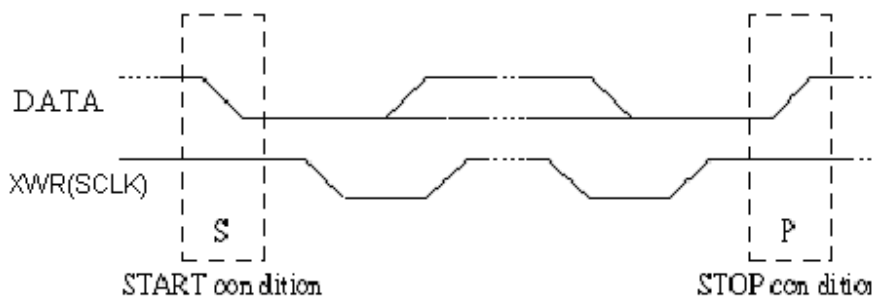

Figure 5. Definition of START and STOP conditions
Both data and clock lines remain HIGH when the bus is not busy. A HIGH-to-LOW transition of the data line, while the clock is HIGH is defined as the START condition (S). A LOW-to-HIGH transition of the data line while the clock is HIGH is defined as the STOP condition (P). The START and STOP conditions are illustrated in Figure.5